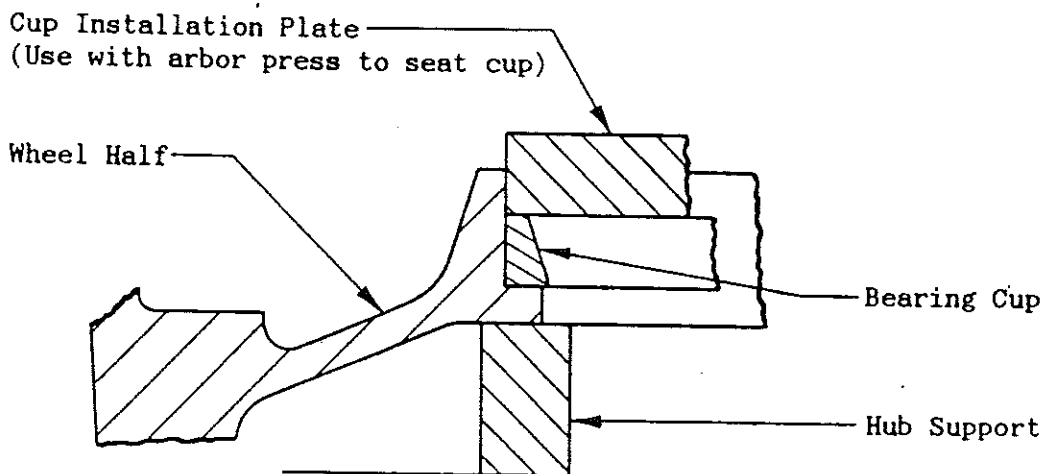

Figure 2 Supporting Wheel Hub
2.1.4.4.2 Support wheel hub and paint the ID of the hub with zinc chromate primer. Then press cup into wheel half as shown in Figure 2.